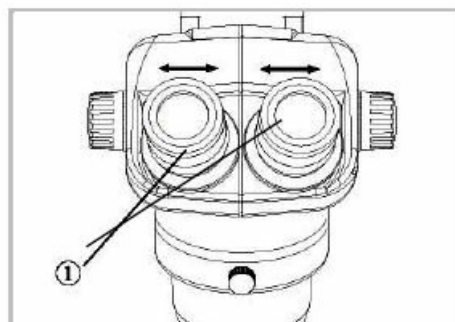

Fig. 6
- **Adjusting Interpupillary Distance (Fig. 6)**